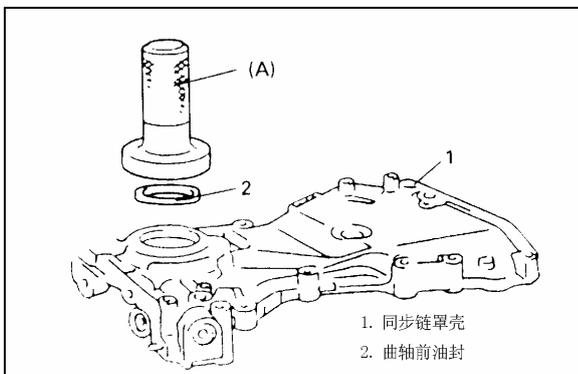

Fig. 4-147
- Check cover seal' s lip for damage, replace new one if necessary, Fig 4-147.